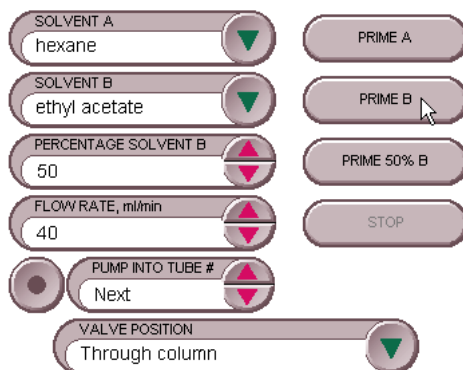

Figure 7-6 Manual Control Settings - Quick Cleaning
4. Set the Flow Rate to 40 mL/min (Figure 7-6).
3. Set the Flow Rate to 40 mL/min (Figure 7-6).